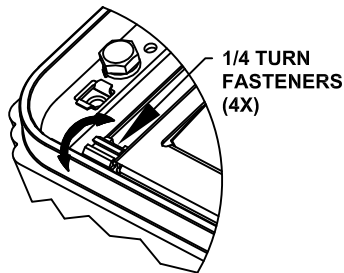

FIG. 2
3. ROTATE 1/4 TURN REFLECTOR FASTENERS. PULL REFLECTOR ASSEMBLY STRAIGHT OUT & DISCONNECT THE CONNECTOR. IF REPLACING THE BALLAST FOLLOW SCHEMATIC ON THE NEW BALLAST. REPLACE AND RETIGHTEN ALL FASTENERS. RECONNECT REFLECTOR CONNECTOR. SEAT THE REFLECTOR ASSY AND LOCK IN PLACE WITH 1/4 TURN FASTENERS. SEE FIG. 2& 3.